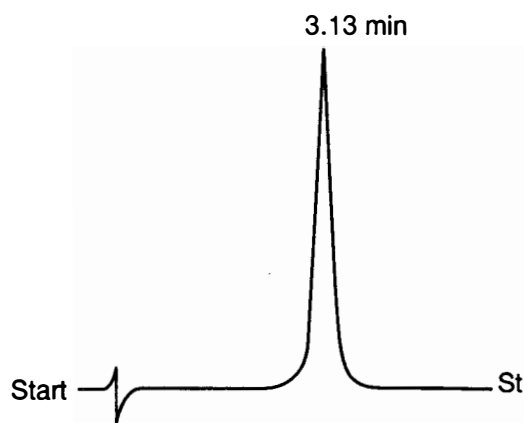

Fig. 2.2. Representative chromatogram.
8. The chromatogram will start to show a peak after approximately 2 minutes. The apex of the peak will elute at approximately 3 minutes. After completion of the chromatogram, check for smoothness of baseline and symmetry of peak. See Figure 2.2.